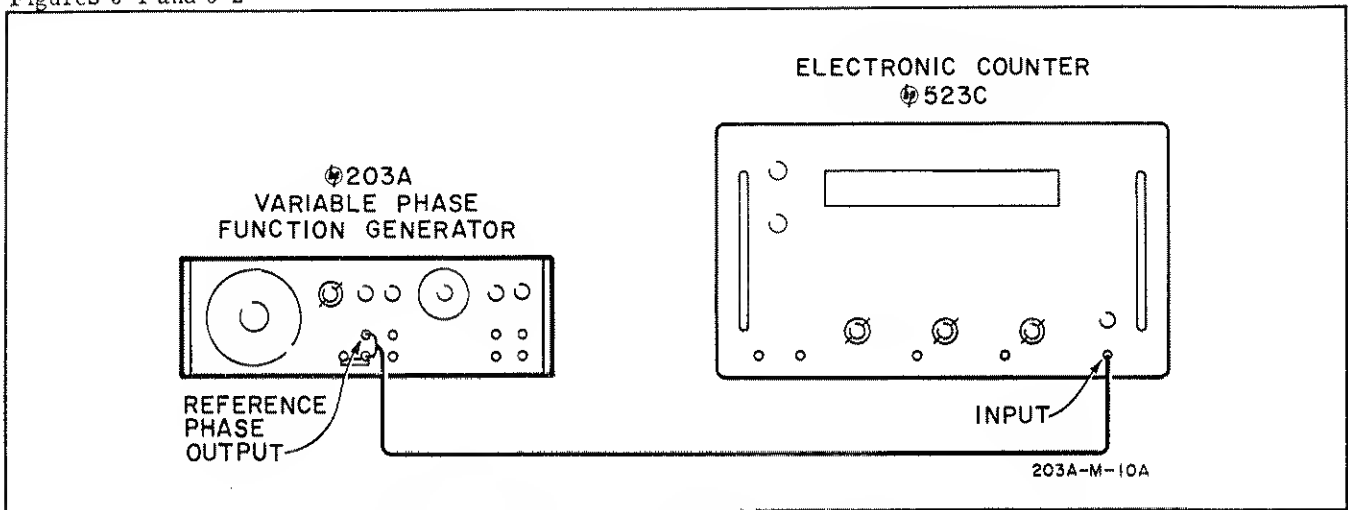

Figure 5-1. Frequency Dial Calibration
d. Connect Model 203A as shown in figure 5-1.
a. Connect Model 203A as shown in figure 5-1.